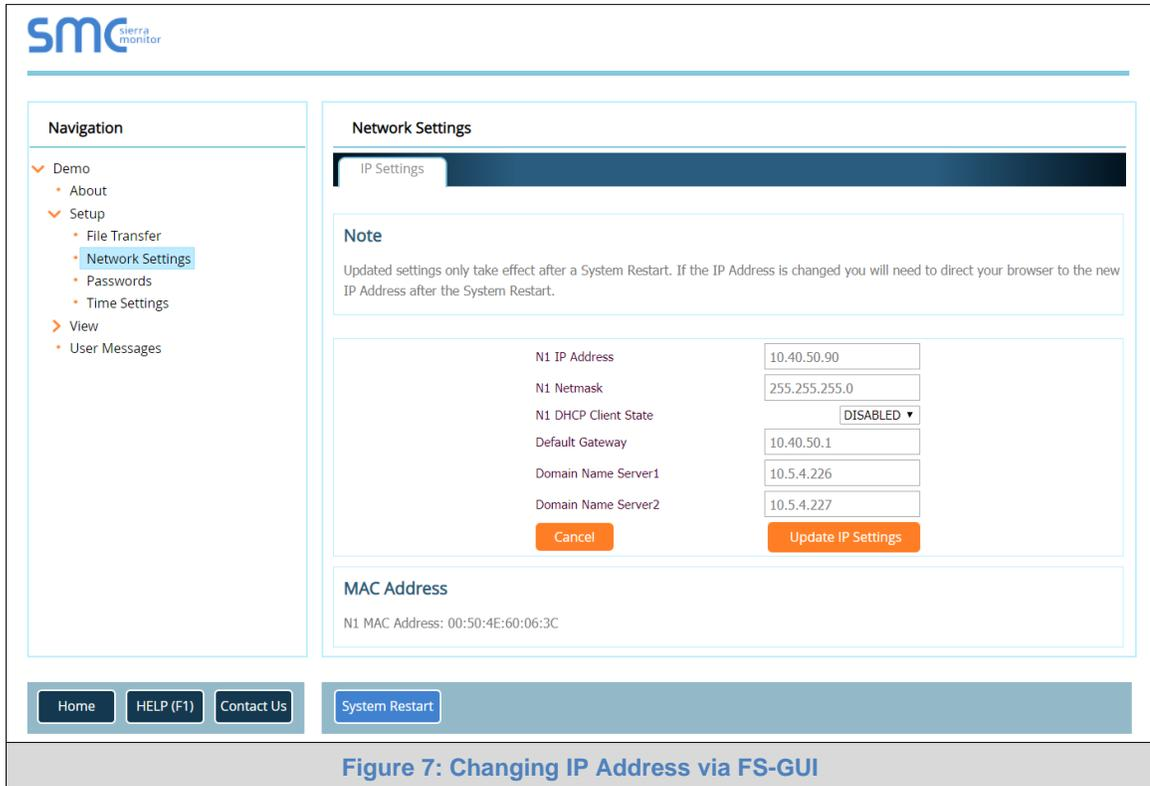

Figure 7: Changing IP Address via FS-GUI
- From the FS-GUI landing page, click on “Setup” to expand the navigation tree and then select “Network Settings” to access the IP Settings menu. (Figure 7)
**NOTE: The SMC Cloud button  (see Figure 7) allows users to connect to the SMC Cloud, MSA Safety’s device cloud solution for IIoT. The SMC Cloud enables secure remote connection to field devices through a FieldServer and its local applications for configuration, management, maintenance. For more information about the SMC Cloud, refer to the SMC Cloud Start-up Guide.**